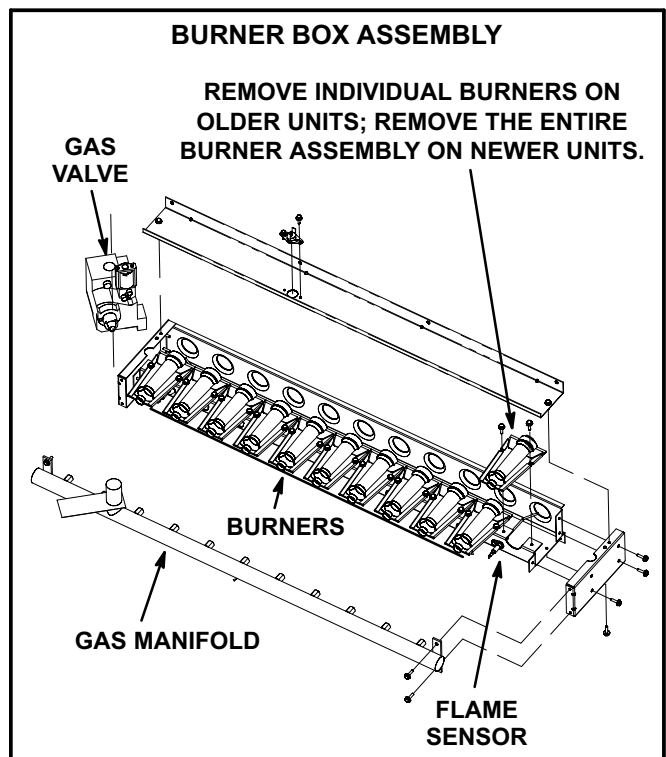

FIGURE 27
- 3- Remove screws securing burners to burner support and lift the individual burners or the entire burner assembly from the orifices. See figure 27. Clean as necessary.